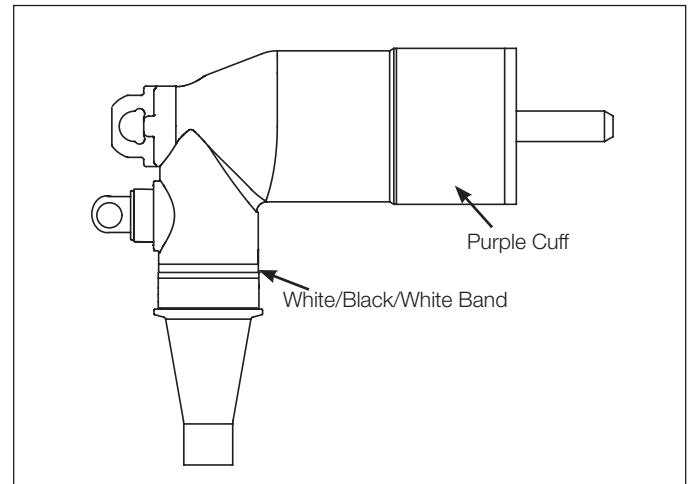

Figure 4.
- Place “purple” cuff over existing “tan” cuff as shown in Figure 4.